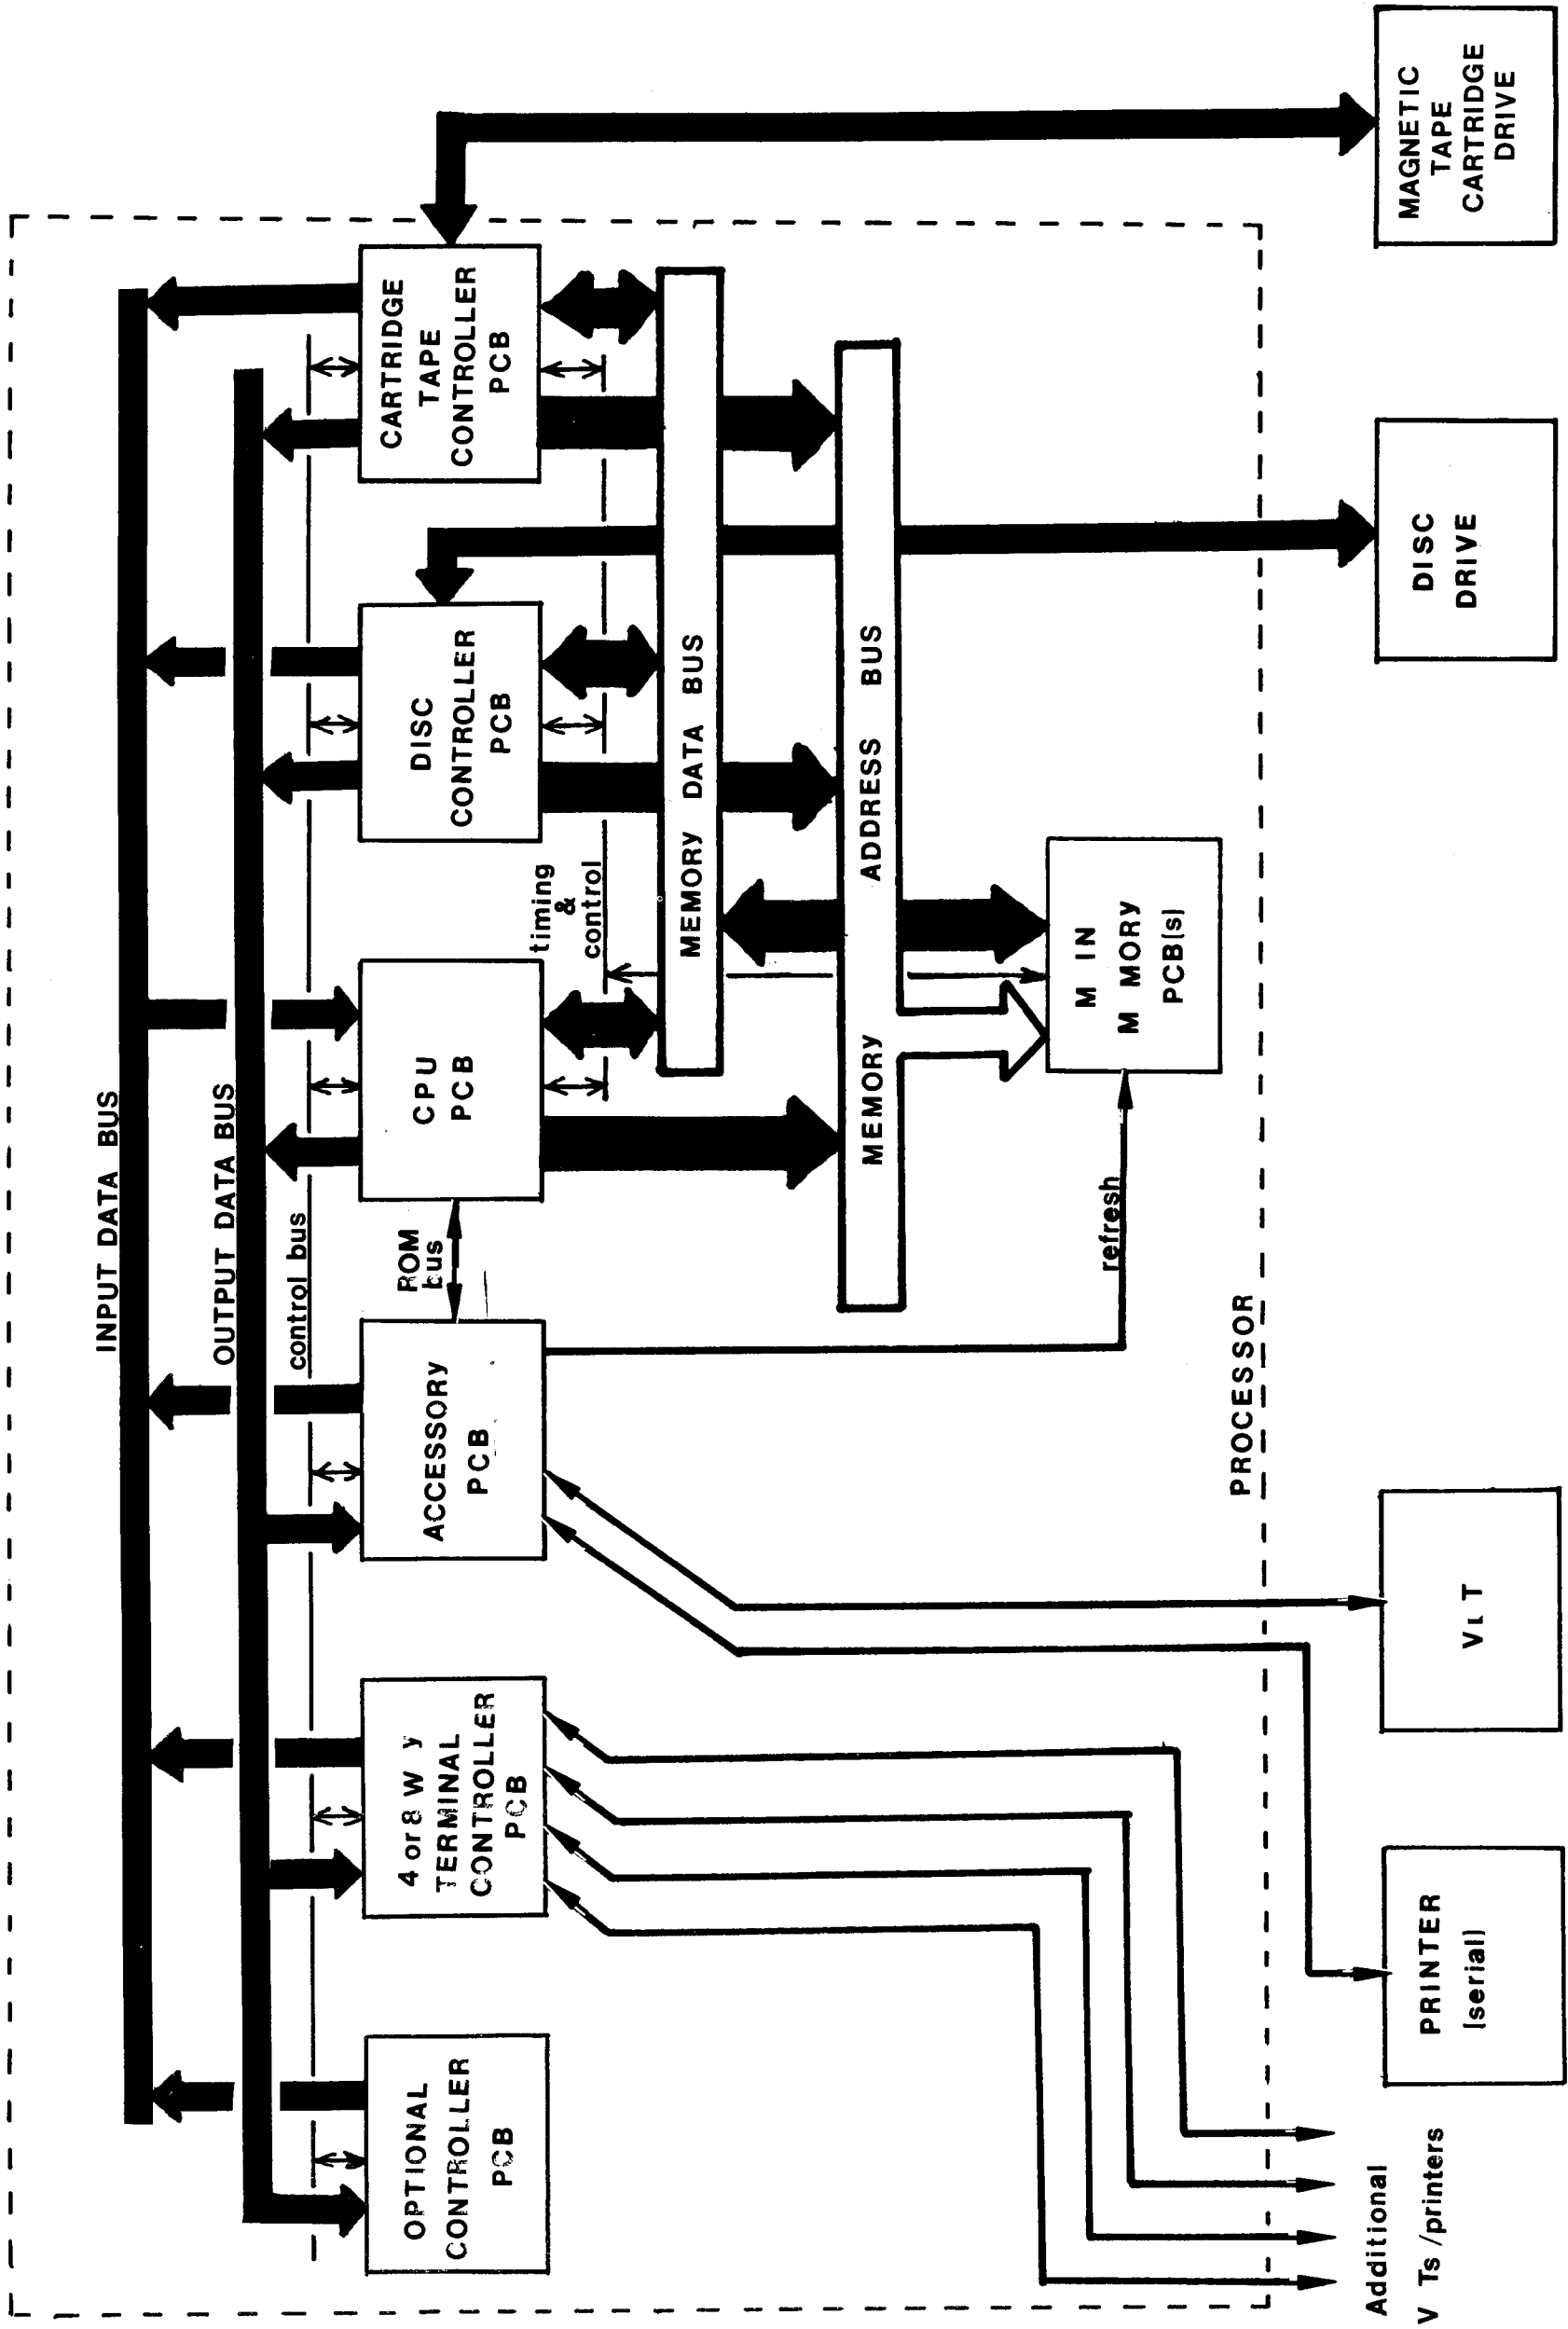

Figure 3-2. Processor Functional Block Diagram
Within the dotted lines of Figure 3-2 is an illustrated functional block diagram of the Processor. The Processor consists of the following devices:
Communication between the CPU and the rest of the Processor devices is accomplished by various busses as shown in Figure 3-2. Each bus handles information of a particular type.
For reference purposes, Figure 3-2 also shows how each peripheral device is tied to its associated Controller. The respective Service Manual describes its relationship (Printer, VDT, Disc Drive, and Magnetic Tape Cartridge Drive) to the controller.
The Central Processing Unit (CPU), as shown in Figure 3-2, initiates, controls, and terminates all actions within the computer system, as well as performing arithmetic calculations and logical functions. The CPU controls the movement and modification of data throughout the system as specified by the program present in Main Memory.
Main Memory functions as the storage medium for programs and data currently being executed upon by the CPU (see Figure 3-2). Main Memory may be organized up to 96k words or nine (9) bits in length. Eight (8) bits of each word represents data and the remaining bit is the parity bit for the word (an LED on the memory PCB illuminates when a parity error has occurred). Because the Main Memory is a dynamic semiconductor type, each cell (1 bit/cell) must be refreshed every two milliseconds, otherwise, the charge held in the cell will leak off. Figure 3-3 shows the required timing relationships to perform a memory refresh cycle.
Main Memory is connected to the CPU, Disc Controller, and MTCB Controller by a memory data bus, two (2) memory address busses, and timing and control signals (see Figure 3-2). It is on these busses that the information is transferred to/from Main Memory to the rest of the system in a DMA.
The Disc Drive Controller (see Figure 3-2) provides the interface required to pass information between the CPU and the Disc Drive. The Disc Drive Controller provides the following functions.
The Magnetic Tape Cartridge Controller provides the interface required to pass information between the CPU and the Magnetic Tape Cartridge Drive (MTCDD) (see Figure 3-2). The MTCDD provides the following functions.
The Accessory PCB is connected to the I/O Channel to allow data communication between the CPU and the VDT(s) and/or serial Printer (see Figure 3-2). The Accessory PCB and CPU are connected together by a short 50 wire ribbon cable. It is through this cable that the CPU gains access to the micro-instruction control ROM located on the Accessory PCB.
A bus, for the purposes of this discussion, is a set of wires used as a path over which information is transmitted from any of several sources to any of several destinations. Each bus is shared by several devices, with the CPU as one end point (see Figure 3-2). The following paragraphs describe the function and basic operation of the CPU busses.
The Input/Output (I/O) Channel consists of three (3) physically independent busses that work in conjunction with one another to provide data communications between the CPU and the peripheral Controllers (see Figure 3-2). The Output Data Bus (OD00-OD07) is an 8-bit uni-directional, and, as its name implies, carries information sent from the CPU to the peripheral Controllers. The Input Data Bus (ID00-ID07) is also 8-bit uni-directional, and, carries information sent from the peripheral Controllers to the CPU. The control bus (IO1X-, IO2X-, IO3X-) is a 3-bit uni-directional bus that carries information sent from the CPU (I/O control register) to all peripheral Controllers. The bit pattern that appears on the control bus specifies, to the selected peripheral Controller, what action is to be taken on the Input and Output Data busses (refer to Table 3-2).